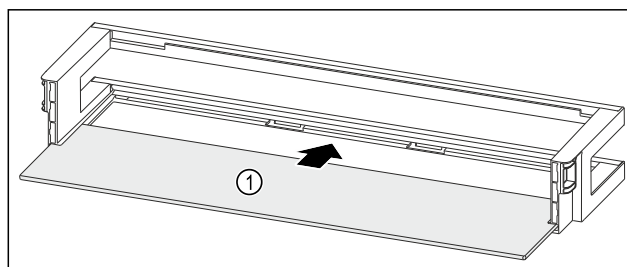

Fig. 170 Door rack with shelf
- ▶ Push the shelf Fig. 170 (1) into the side recesses.